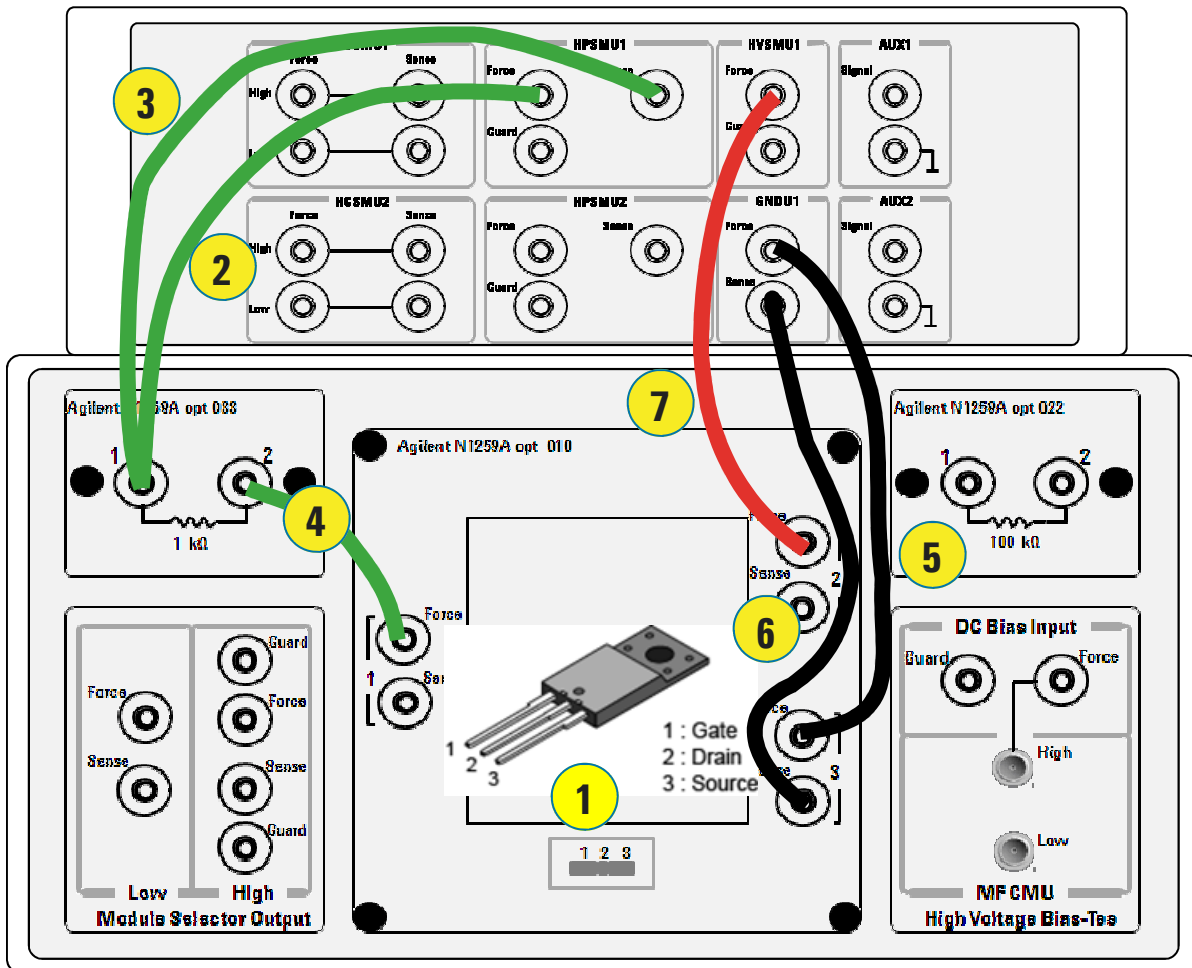

Figure 3-52. Connection between the SMUs and the power MOS-FET fixture.
Open the N1259A test fixture cover, and connect the test leads by following the step numbers as shown in figure 3-52. The numbers of the procedure steps correspond to the numbers on the drawing for connecting the test leads.
Step 1 to Step 6: These steps are the same as the steps of figure 3-52 or previous section A. Please refer to these information or just change the leads in the following step 7 and 8.